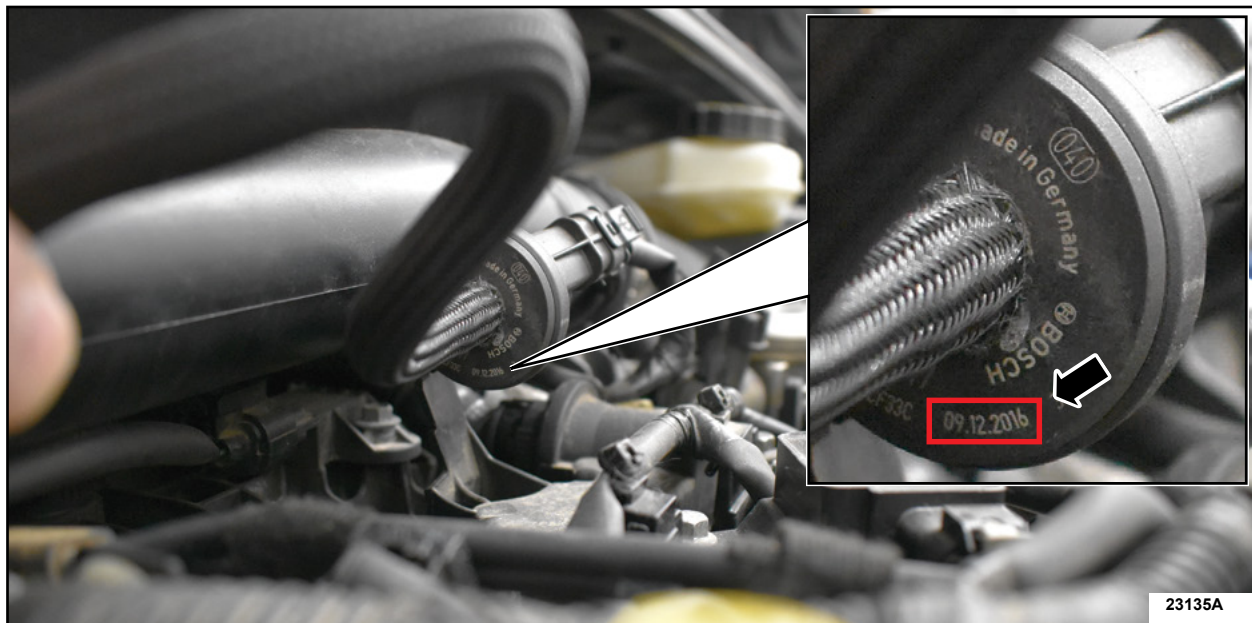

FIGURE 1
1. Inspect the evaporative emission canister purge valve for a date code as shown in Figure 1. The date code is read DD MM YY or DD MM YYYY.